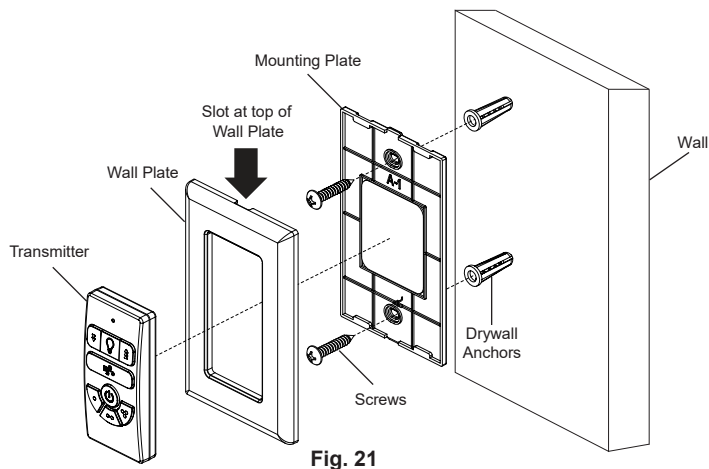
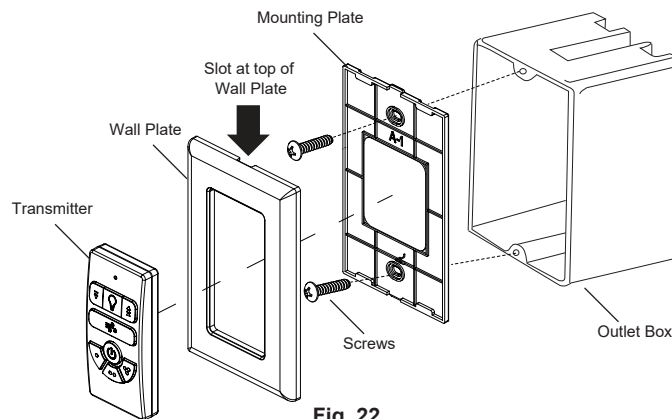

Fig. 21
Fig. 22
Step 1. Remove the wall plate from the mounting plate (insert a small, flathead screwdriver into the slot at the top of the wall plate, and carefully pry the wall plate off of the mounting plate). (Fig. 21)
Step 3. If you want to install the mounting plate to wall, follow the instruction in below (Fig. 21), use drywall anchors and screws to install the mounting plate. If you want to install the mounting plate to outlet box, follow the instruction in below. (Fig. 22)
Step 4. Snap the wall plate in place onto the mounting plate. (Fig. 21&22)
Step 5. Insert the transmitter into the center of the wall plate, and it will magnetically attach to the mounting plate. (Fig. 21&22)